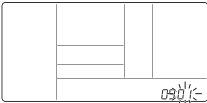

Figure 1.
- If it is set as Override Slave,  icon is displayed on LCD Display Window. (See Figure 1)